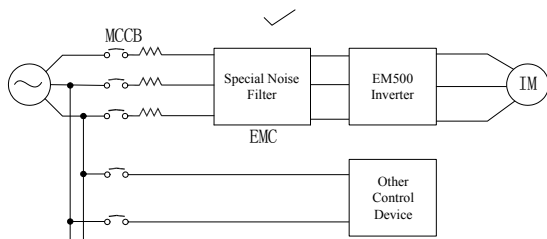
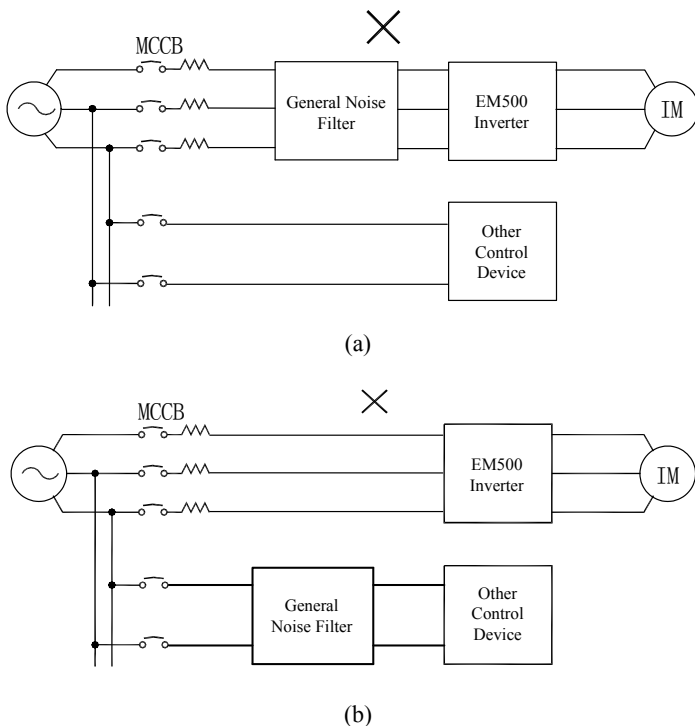

Figure 3-6 Correct Installation of Noise Filter
Figure 3-7 Incorrect Installation of Noise Filter
- Correct and incorrect installation methods of a noise filter are shown in Figure 3-6 and Figure 3-7.